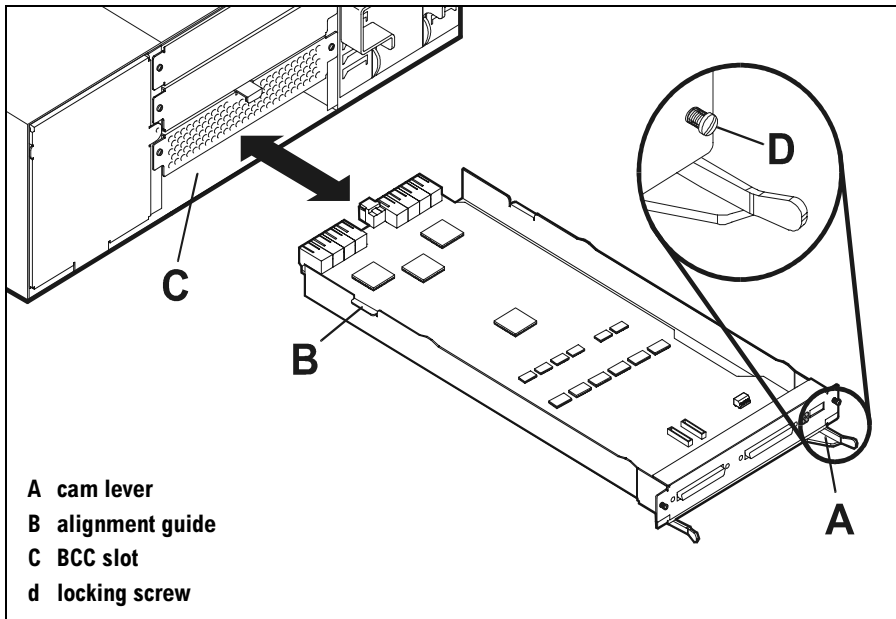

Figure 53 Bus Control Card Insertion
3. Open the cam levers (A in Figure 53) by pulling them away from the center of the card.
6. When there is no fault indication, tighten the locking screws (D in Figure 53).